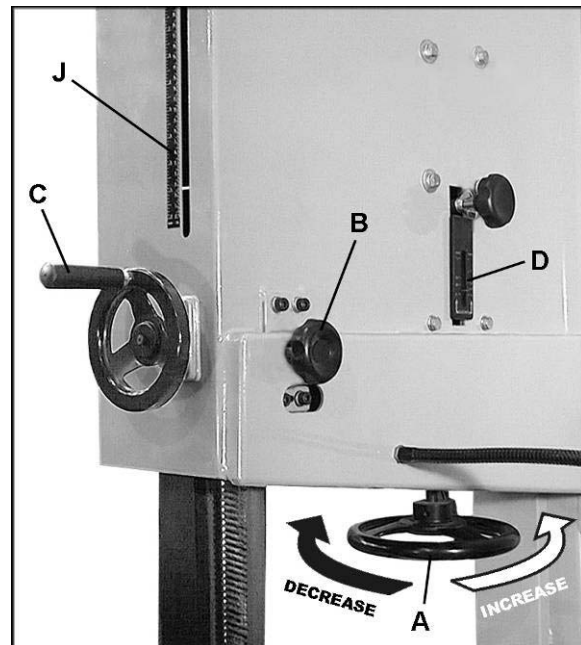

Figure 14
2. Decrease blade tension by rotating blade tension handwheel (A, Figure 14) according to the arrow direction in Figure 14, until the handwheel stops.
5. Lower the upper blade guide assembly by loosening the knob (B, Figure 14) and rotating the handwheel (C, Figure 14).
3. Rotate blade tension handwheel to set the blade tension, according to the arrow directions in Figure 14.
4. The gauge (D, Figure 14) indicates the approximate tension according to the width of the blade in inches. Initially, set the blade tension to correspond to the width of your blade. As you become familiar with the saw, you may find it necessary to change the blade tension from the initial setting.
TIP: When the band saw is not being used, slightly release the tension on the blade – this will prolong the blade’s life. Make a note of the specific tension setting for that particular blade, as shown on the gauge (D, Figure 14). The tension can then be re-set quickly when band saw operations are resumed.
2. Loosen lock knob (see B, Figure 14) and raise or lower upper blade guide assembly by turning the handwheel (C, Figure 14).
3. Position the blade guide assembly about 3/16" above the material to be cut. The scale (J, Figure 14) shows the distance from bottom of upper blade guides to the table surface.
4. Tighten lock knob (B, Figure 14).